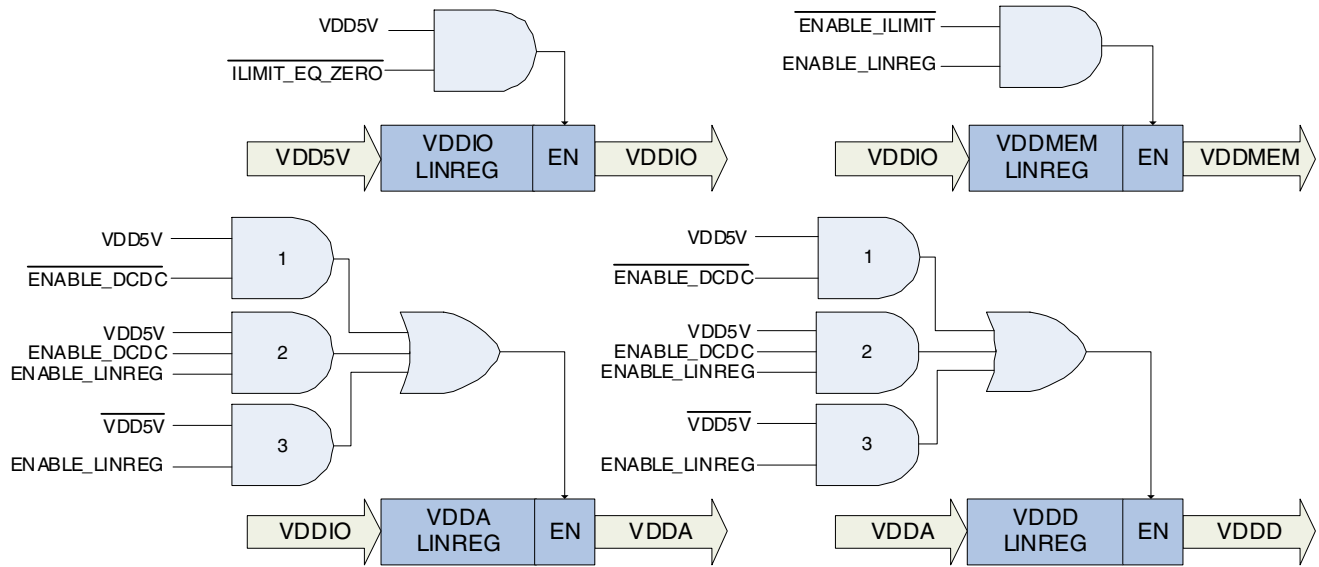

Figure 4. Enable Logic for Linear Regulators
The VDDD, VDDA, VDDIO and VDDMEM rails can be powered from LinRegs. For VDDIO, the LinReg can only be enabled when 5 V is present. Additionally, the 5 V current limiter must be disabled for VDDIO to operate. For VDDD and VDDA, the rail's LinReg is enabled with particular combinations of 5 V status, ENABLE\_DCDC status and the rail's LinReg enable bit. VDDMEM only requires its enable bit to be set. Figure 4 shows each LinReg power source and enable logic.
The first combination is the default configuration when the device is powered on by 5 V. In this case, indicated by AND-gate 1 in Figure 4, ENABLE\_DCDC is false and 5 V is present. This means the presence of 5 V can activate or deactivate the rail's LinReg without any software interaction.
In the second case, AND-gate 2 in Figure 4, the LinReg is activated when 5 V is present, ENABLE\_DCDC is true, and ENABLE\_LINREG is true. The DC-DC is active because ENABLE\_DCDC is true. When 5 V is present and ENABLE\_DCDC is true, the ENABLE\_LINREG bit for the rail must be set to activate the LinReg.
The third case occurs when 5 V is not present and is indicated by AND-gate 3 in Figure 4. In this scenario, the VDDD and VDDA LinReg are enabled by simply setting ENABLE\_LINREG.
1. Determine the logic that enables the LinReg. See Figure 4 for each LinReg's requirement. 5 V is present in this example.